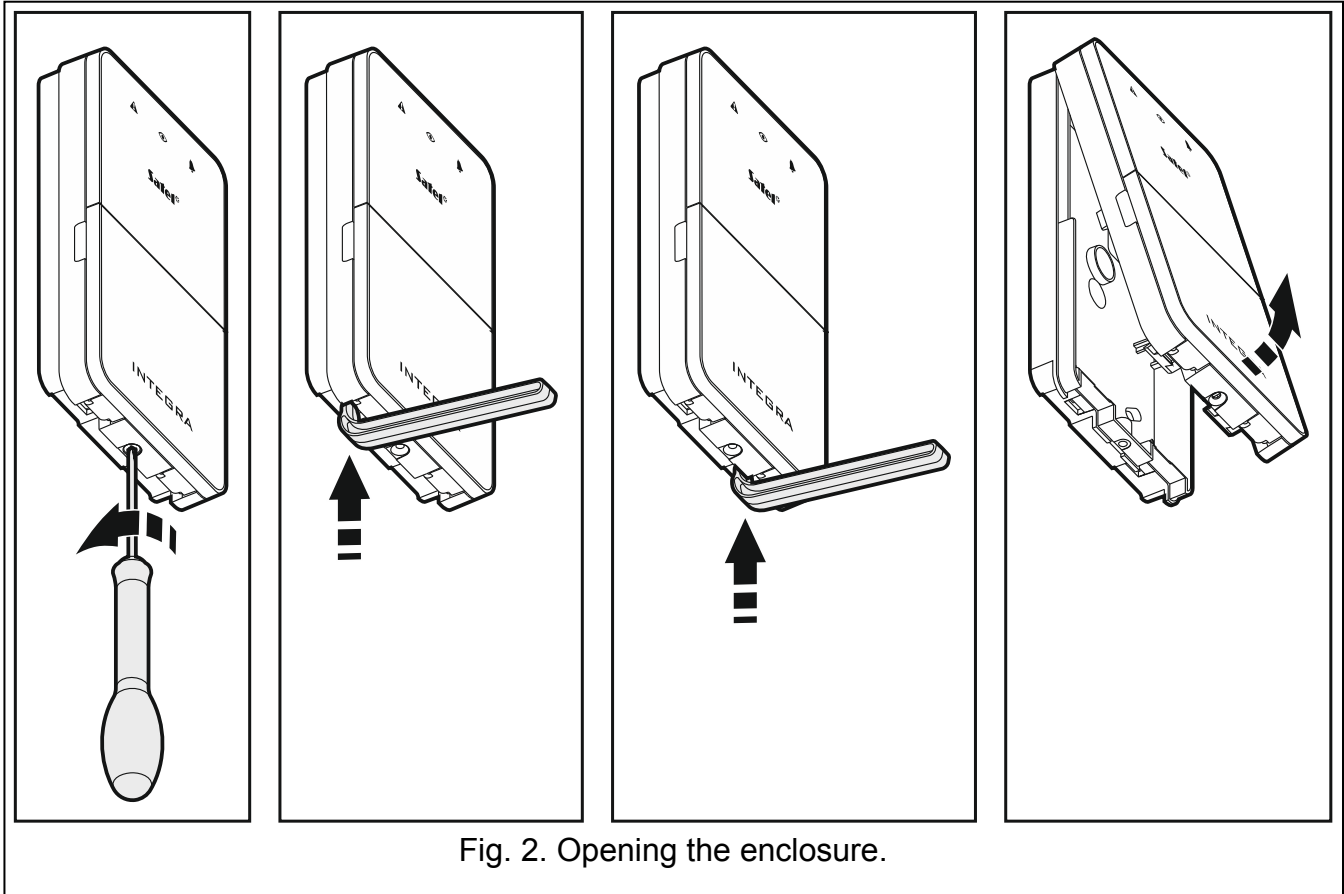

Fig. 2. Opening the enclosure.
1. Open the keypad enclosure (see Fig. 2). The enclosure opening tool, shown in the illustration, is included in the keypad delivery set.